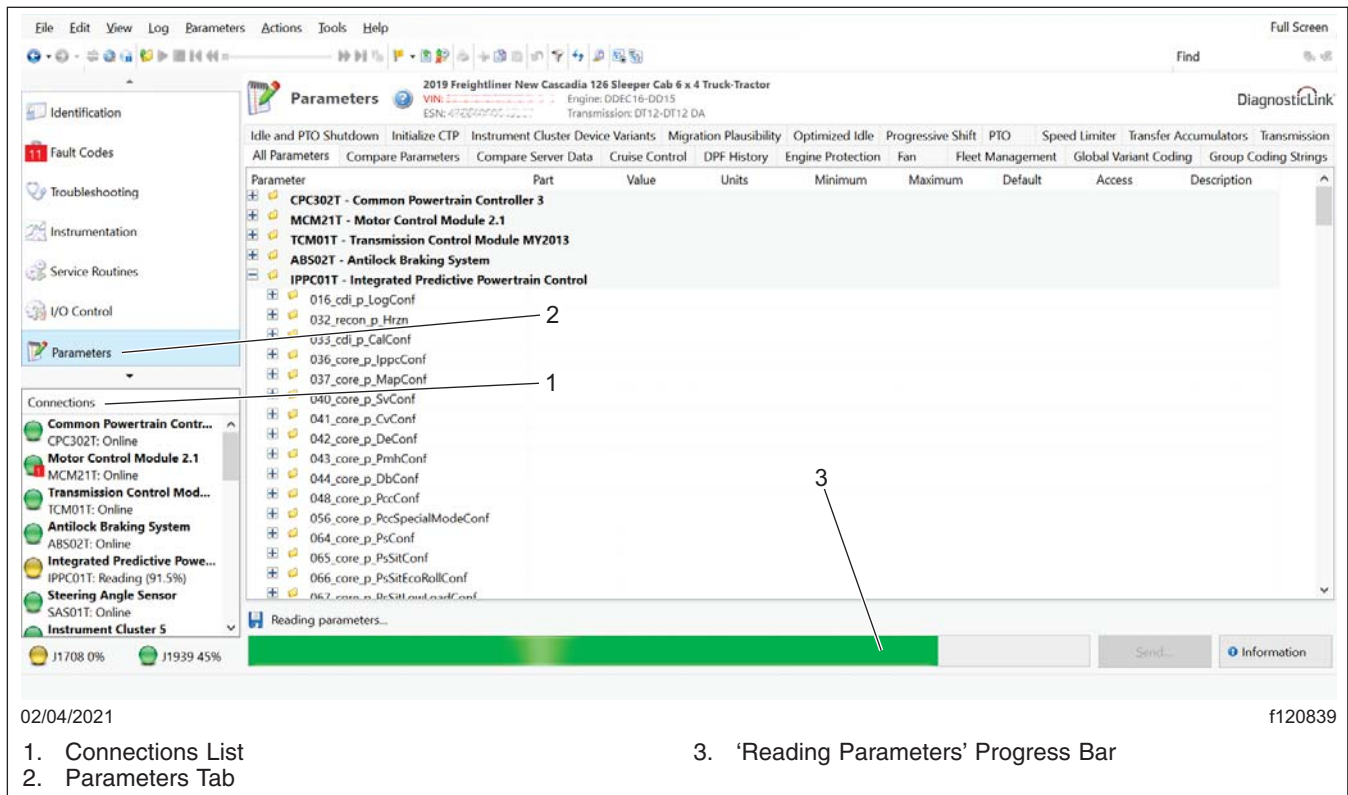

Fig. 3, Connecting the Default ECUs and Reading the Vehicle Parameters in DiagnosticLink
- Go to the 'Parameters' tab, and allow the parameters to be read completely by DiagnosticLink, as indicated by the status bar at the bottom of the screen. See Fig. 3.